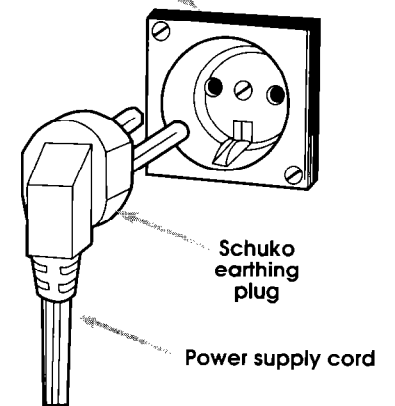

Figure 1
- This appliance is equipped with a power supply cord having a 3-prong earthing plug. To minimize possible shock hazard, the cord must be plugged into a mating 3-prong earthing-type wall receptacle, earthed in conformance with National Electrical Codes, and all local codes and ordinances. See Figures 1 and 2. If a mating wall receptacle is not available, it is the personal responsibility and obligation of the customer to have a properly earthed 3-prong wall receptacle installed by a qualified electrician.